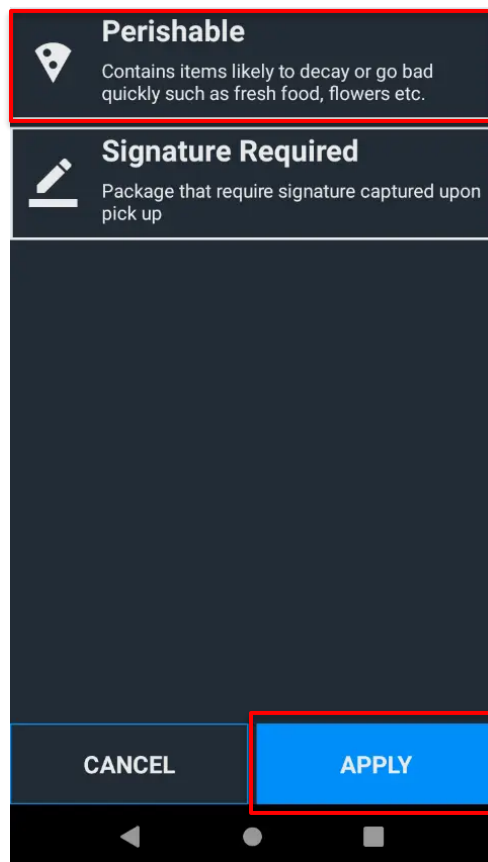

Figure 24: Assign package notes
7. Tap any of the following notes (you can select all, if necessary). See Figure 24.
- With a note selected, tap **Apply**, see Figure 24.